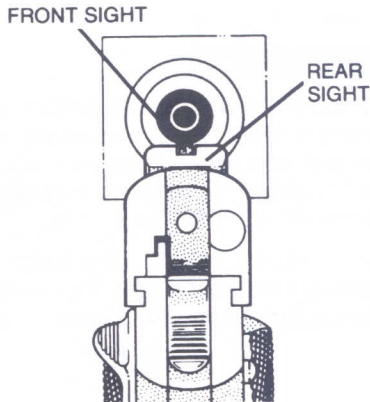

FIGURE 6—AIMING
3. Grasp pistol by stock and, with index finger resting along the outside of trigger guard, take aim. Aim by aligning target with front and rear sights. (See Figure 6) After identifying your target and seeing that it is clear to shoot, focus on the front sight. Be sure you have a safe backstop. **THINK!** What will you **HIT** if you **MISS** the target?